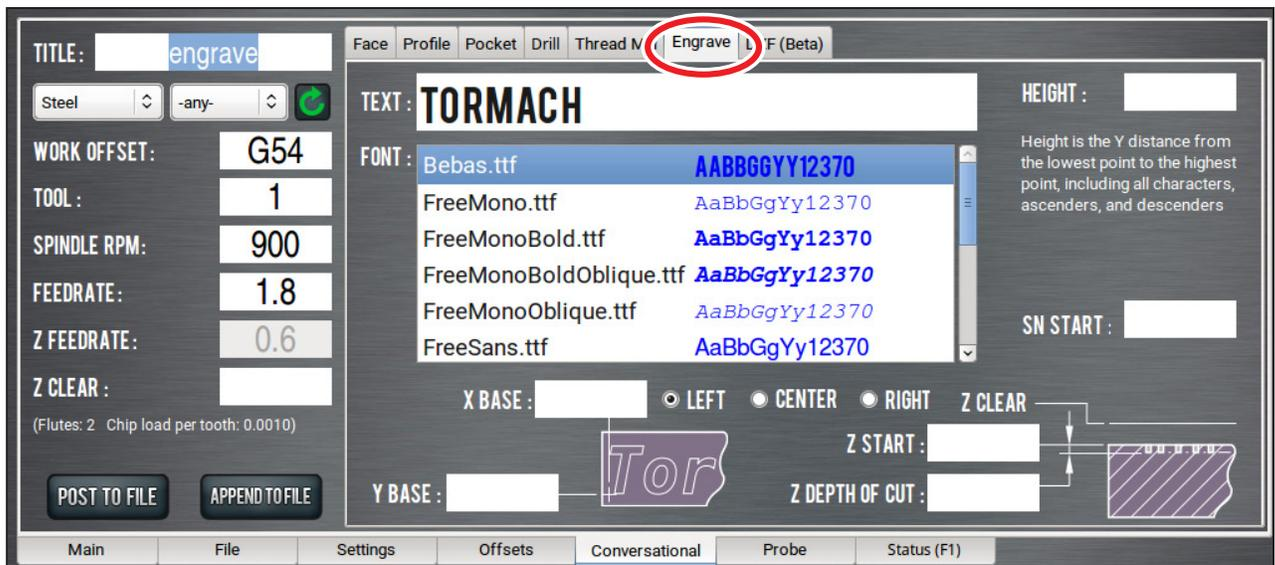

Figure 6.36
**Font** – Lists the True Type font files found in the font directory. Scroll through and click on the desired font; clicking presents a sample in the *Text DRO*. Some font files do not render in this box, but may be viewed by posting the file and checking the font in the *Main* tab's preview window (see **Figure 6.36**). True Type font files may be added to the *Font* list by transferring font files to the *gcode/engraving\_fonts* sub-directory in the controller's home directory (for more information, refer to *File Tab* section earlier in this chapter). Power the controller off and back on to refresh new files in the *Font* list.